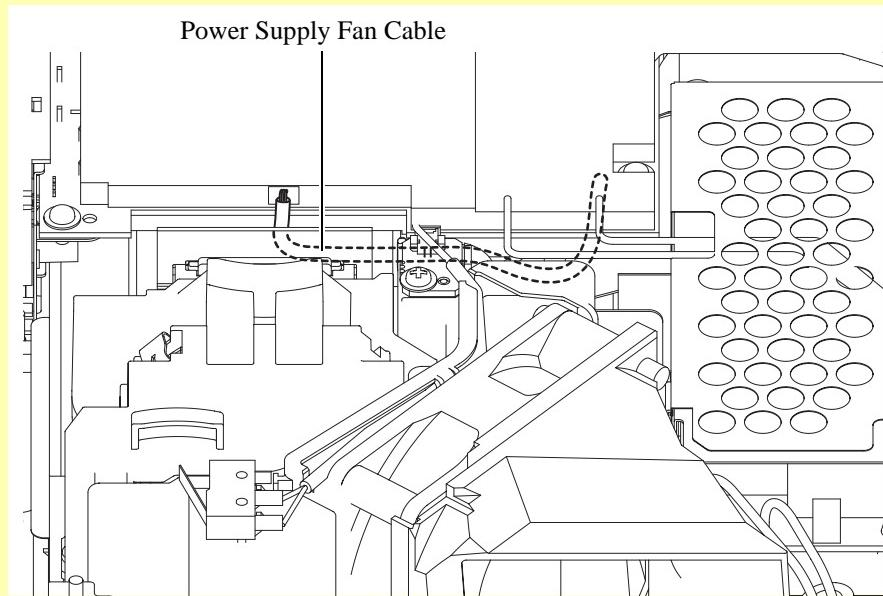

Figure 4-18.
- 2). Route the Power Supply Fan Cable as shown in Figure 4-18, and press into the cable under the MA Board as far as it will go.